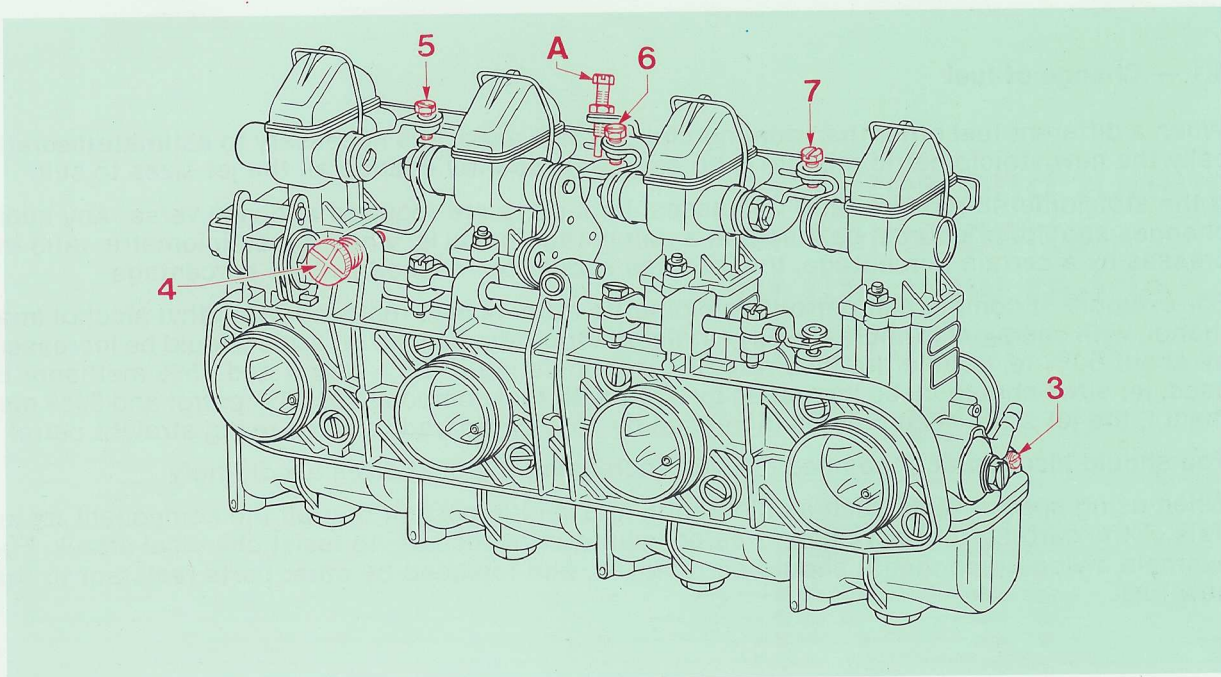
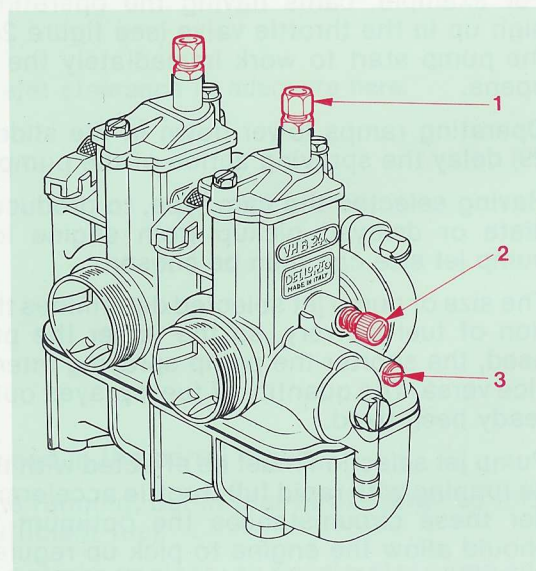

fig. 32
fig. 31
Make sure, both for independent (figure 31) and grouped carburettors (figure 32), that each throttle cable has about 1mm free play at idle.
- start the engine and when it has reached normal running temperature, adjust the idle speed to about 1000 rpm using the throttle adjusting screw (2) in figure 31 or screw (4) in figure 32.
- for independent carburetors (figure 31) align the mercury column levels using the throttle adjusting screws (2) on each carburettor.
- for carburetors mounted together in a group (figure 32) align the mercury column levels with the level of the carburettor connected directly to the throttle control, adjusting the balance-adjusting screws (5), (6), (7).
- then adjust the mixture screws (3) of each carburettor to obtain the fastest even running.
- recheck the alignment of the mercury columns and then reset the engine to the desired idle speed using the throttle adjusting screw (2) in figure 31 or screw (4) in figure 32.
- for independent carburetors (figure 31) check that the alignment of the mercury columns is unaffected by slightly opening the throttle. If it is, adjust the individual cable-adjuster screws (1) to correct this.
- with carburettors **separated** (figure 31) and therefore with a throttle cable each.
- with carburettors **mounted together** in a rigid group by means of a suitable flange (figure 32) and with a single control cable.